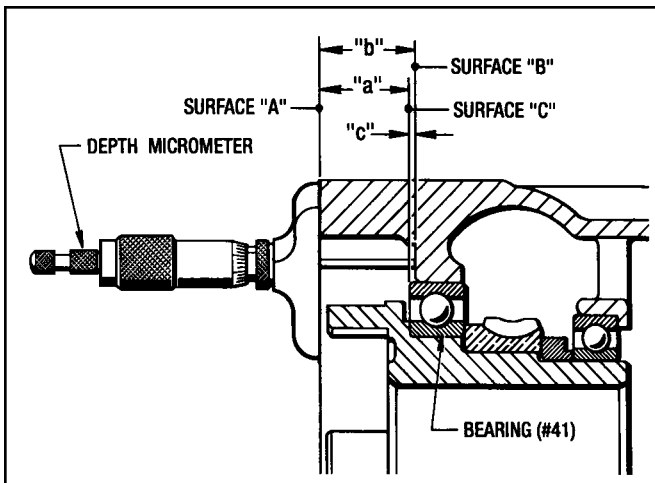

Figure 9.3 - Determining Thickness of Shim (#292)
6. Determine the thickness required for Shim (#292). (See Figure 9.3)